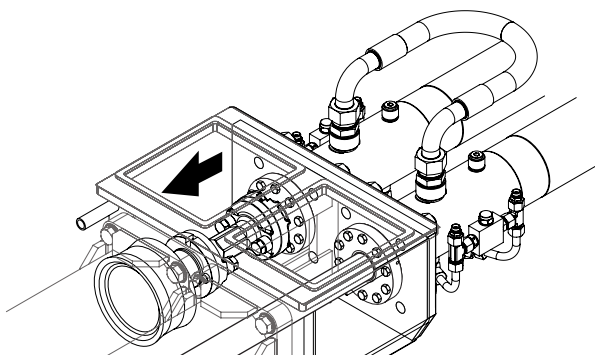

Figure 28
7. Restart the engine, and clear all E-stop requests. Press the concrete pump forward or reverse button and ram change button simultaneously. Slowly move the cylinder down to where its flange butts up to the spacer coupling; be careful not to go too far (Figure 28).